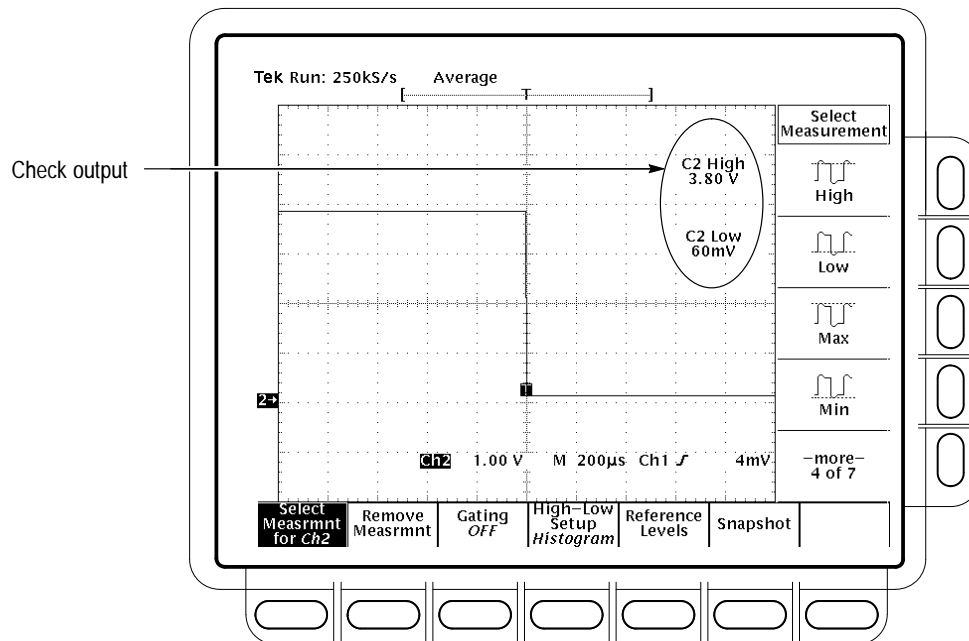

Figure 1-20: Measurement of Main Trigger Out Limits
- d. *Check Delayed Trigger output against limits:* See Figure 1-20.